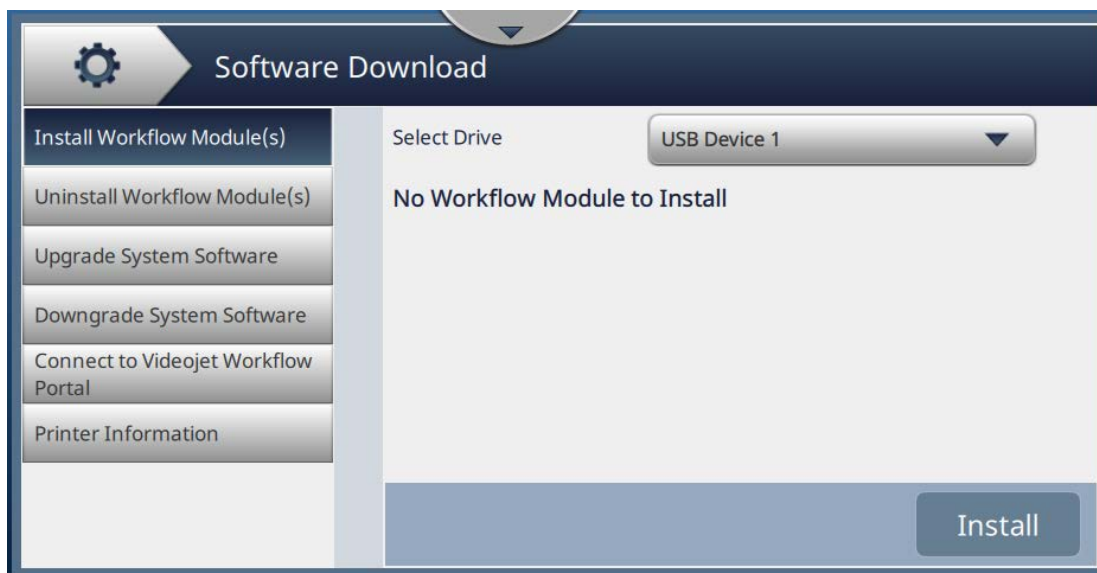

Figure 6-22: Software Download Screen
1. Touch the  button from the Tools screen. The Software Download screen opens as shown in the Figure 6-22.